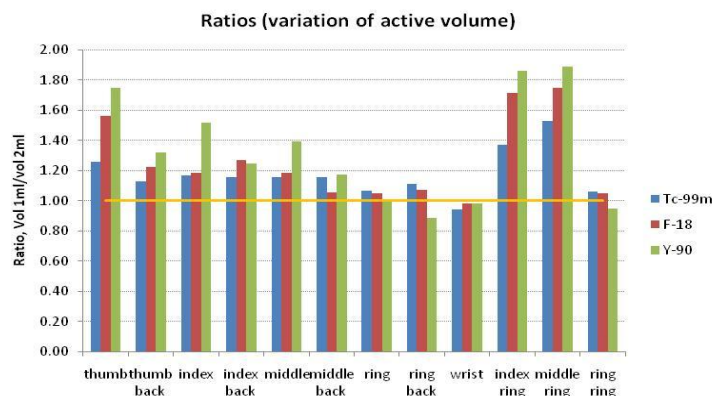

Figure 7: Example of ratios between active solution 1ml and 2ml
- Calculate the ratios of different volumes with initial volume and do one histogram. See example in Figure 7